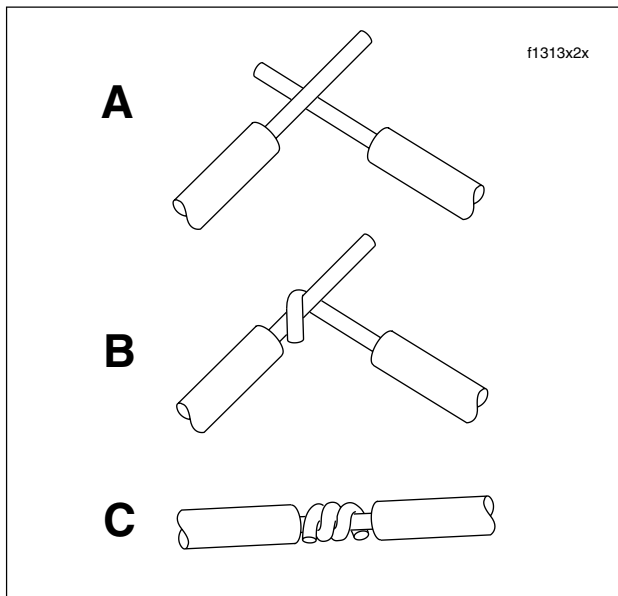

Figure 8-108. Splice Switch Wires
- a. Hold the wires so that the stripped ends cross as shown in A of Figure 8-108. Note that the wire on the left is on top and two-thirds of its stripped length lies beyond the point where they intersect. Looking at the other wire, only 1/3 of its stripped length lies beyond the intersection point.
- b. Holding the wires together at their juncture, start the splice by tightly twisting the top one-third length of the right hand wire over the left as shown in B of Figure 8-108.
- c. Tightly coil the remaining two-thirds of the left hand wire around the right with the results shown in C of Figure 8-108.